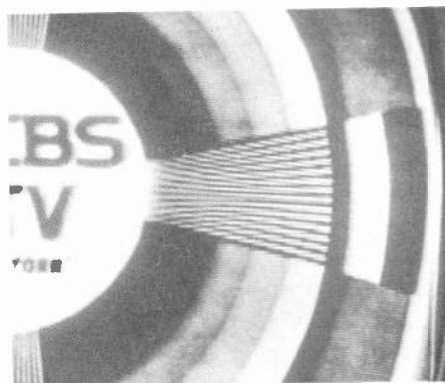

Fig. 4-I. *Poor interlace as indicated by moire effect on horizontal wedge.*
**SERVICE:** Usually caused by breakdown of components in anti-hunting network in afc circuit or associated components. See also gear tooth effect on screen. Anti-hunting networks are enclosed in dashed lines in Figs. 4-H, 5-H, and 6-H.
**SYMPTOMS:** Poor interlace indicated on screen by moire effect of horizontal wedge in test pattern. White horizontal sweep lines not equally spaced but close together, or both light and dark. Pairing of lines with black space between is especially noticeable on large screens. Horizontal lines look coarse. See Fig. 4-I.